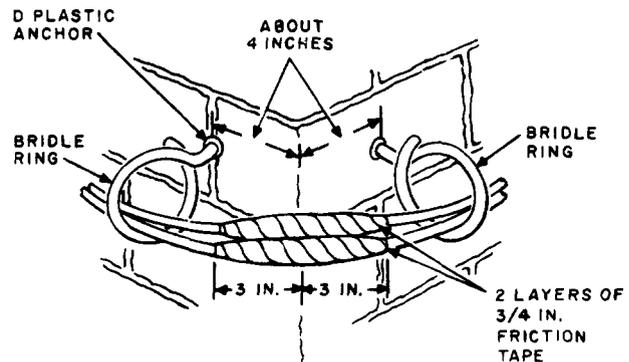

Fig. 1—Bridle Ring
5.07 Figures 1 through 9 illustrate spacing of typical wire runs using a variety of attachments.